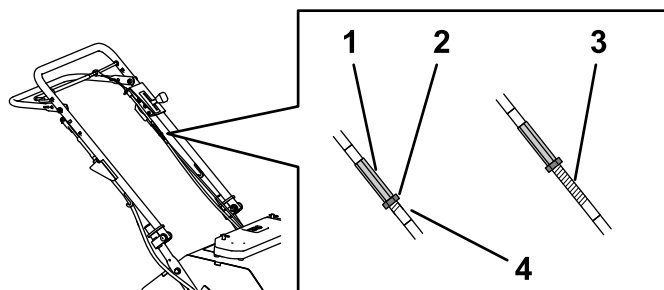
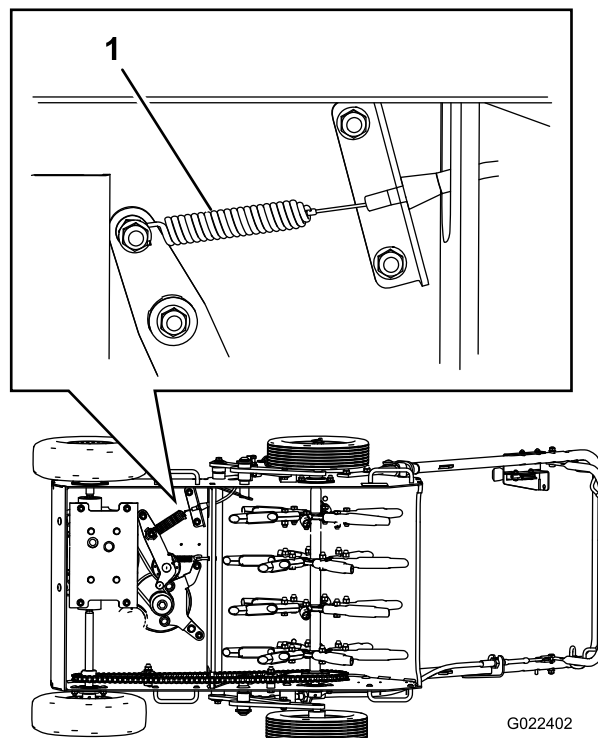

Figure 35
Figure 36
- B. Adjust the cable fitting (Figure 35) 3 mm (1/8 inch) at a time until the traction-cable spring (Figure 36) is stretched about 10 mm (3/8 inch) from the original (unstretched) position.
- A. Loosen the jam nut (Figure 35) on the traction cable.
To increase the belt tension, turn the cable fitting counterclockwise, so that **more** threads are exposed. To decrease the belt tension, turn the cable fitting clockwise, so that **fewer** threads are exposed (Figure 35).